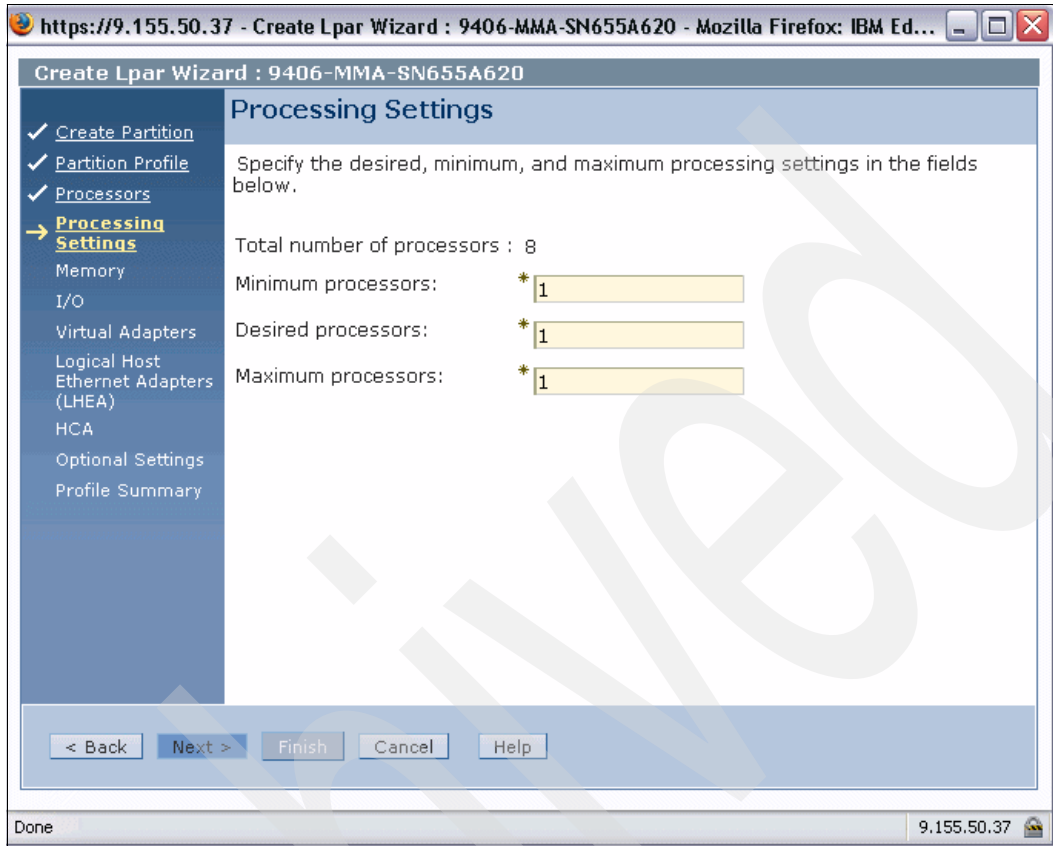

Figure 6-7 Create LPAR Processing Settings dialog
5. We accept the default of one processor for the minimum, desired, and maximum processors settings and select **Next** to continue, as shown in Figure 6-7.